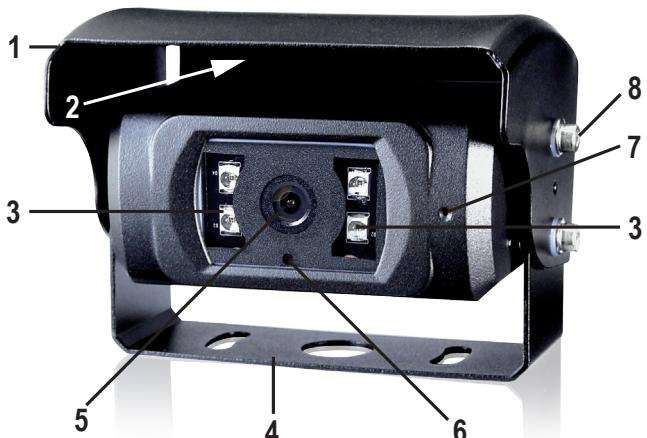
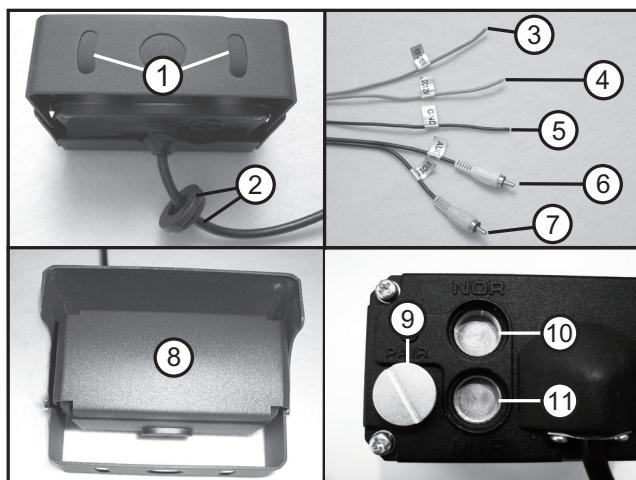
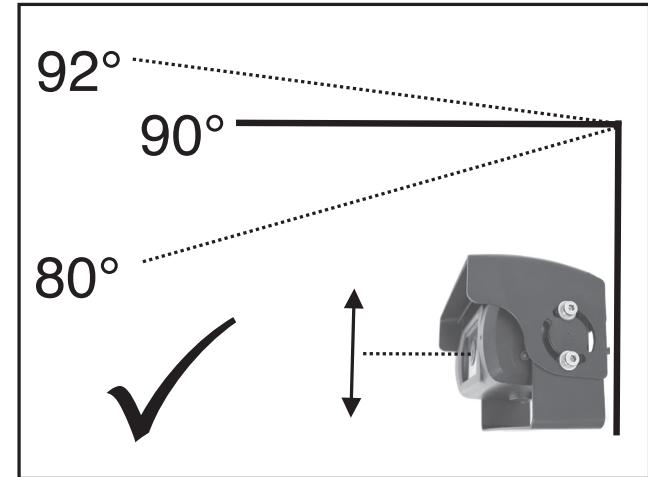

Figure 1
Figure 2
Figure 3
The camera is not suitable for mounting in a hanging position. As shown in figure 3, the installation must be in an upright position or similar.
- Place the camera along with the mounting bracket (figure 1, pos. 4) on the intended mounting location and mark the mounting holes in the middle of the two slots of the mounting bracket (figure 2, pos. 1). Drill the mounting holes, suitable for the screws to be used, with an appropriate drill.
- Check whether your vehicle already has a suitable opening that can be used to lead the camera's connection cable with 5-pole plug (Fig. 2, Pos. 2) into the interior of the vehicle. Otherwise, you must drill a corresponding hole at a suitable spot. To be able to correctly install the cable seal attached to the camera's cable (Fig. 2, Pos. 2), the drilled hole must have a diameter of 20 mm.
- Engage the power supply for the camera. For this purpose, connect the black cable ("GND", figure 2, pos. 5, approx. 3.5 meters long) with the vehicle mass (negative, e.g. for the reversing light) and the red cable ("DC 12V", figure 2, pos. 4, approx. 10 meters long) with a 12V-positive cable which only carries voltage when the ignition is turned on (e.g. under the dashboard). Connect the pink cable ("for camera", figure 2, pos 3, approx. 3.5 meters long) to a cable which connects the reverse lighting with the positive pole of the battery when you go into reverse gear (e.g. the backup light).
- Connect the audio output (figure 2, pos 6, white connector) and video output (figure 2, pos 7, yellow connector) to the monitor that you have been provided for the number plate camera. A suitable extension cable is not included in the delivery and must be purchased for the required length separately.
- Carry out a test run according to the following point "Operation of the number plate camera." Check the function of the number plate camera before the final mounting of the camera. Decide whether you want to mirror the image signal left/right. You can mirror the video signal by turning the magnetic drain plug (figure 2, pos 9) from "NOR" (fig. 2, pos 10) to "MIR" (fig. 2, pos. 11).
- Unfasten the mounting screws slightly on both sides (fig. 1, pos. 8) in order to adjust the camera's angle of inclination. While adjusting the camera pay attention that the camera shutter is able to move freely. When the adjustment is completed, re-tighten the screws on both sides. For this, please also refer to Figure 3.
If the vehicle is placed in reverse while it is running, the backup lights come on. Since the camera has been connected to a cable of the backup lights, the camera shutter now opens (fig. 1, pos 2). Only the area to the back that is recorded by the camera appears on your monitor. You will hear the noises behind your vehicle in the monitor's loudspeaker via the microphone integrated in the camera (fig. 1, pos. 7).
In darkness, the backup area is illuminated by the infrared LEDs (fig. 1, pos. 3) integrated in the camera, which makes the recognition of obstacles easier. The infrared LEDs are switched on automatically via the built-in light sensor (fig. 1, pos. 6). If you change back to forward gear, the camera shutter closes again (fig. 2, pos. 8) and thus protects the camera from outside influences.